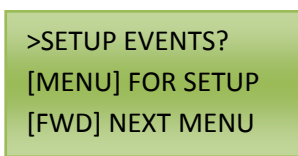

Figure 9.1
1. Press the MENU on the keypad and the screen will say >SETUP EVENTS? See Figure 9.1 for a visual example. If still in the Switch Inputs menu, just press BACK once and FWD twice, to get to the >SETUP EVENTS? Press ENTER on the keypad to setup Events.